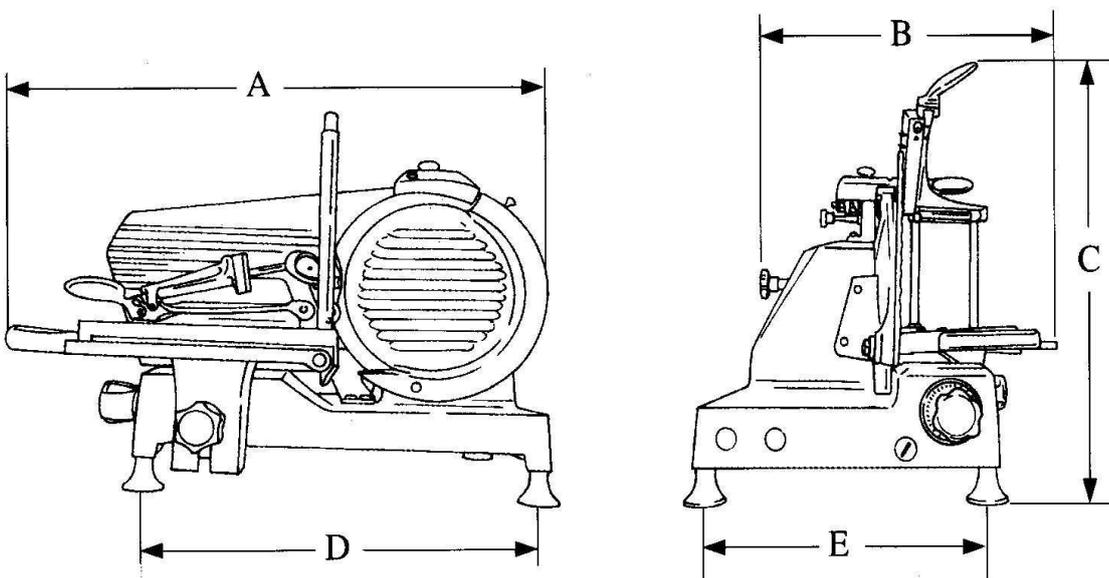
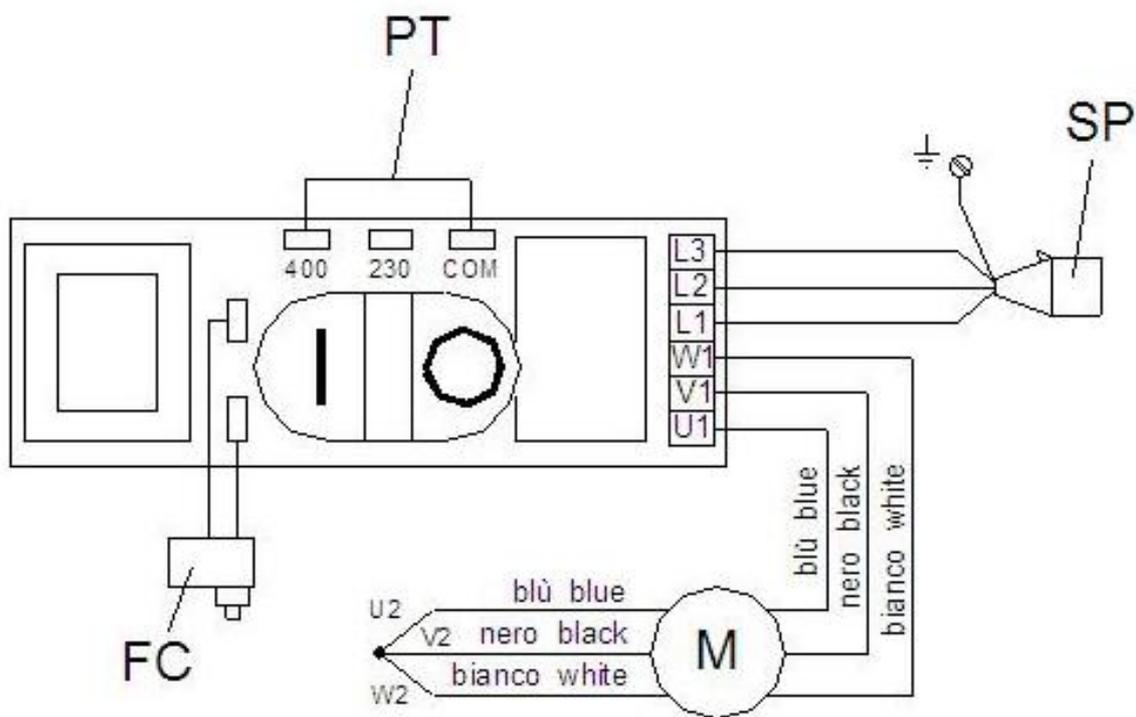

Figure 5 - Dimensional drawings of vertical slicer with twin support arm
Figure 11 - 400 V three phase wiring diagram with 5P plug
At this point, ensure that the earthing system is in perfect working order. Also check that the type of current indicated on the identification plate (Fig. 5) is consistent with the voltage (V) and frequency (Hz) of the power line.
Connect the slicing machine to the 400 Volt 50 Hz three phase mains using a CEI plug (red), interposing a 10A, $I_{\Delta n} = 0.03 \text{ A}$ RCD/circuit breaker. At this point, ensure that the earthing system is in perfect working order. Also check that the type of current indicated on the identification plate (Fig. 5) is consistent with the voltage (V) and frequency (Hz) of the power line. Before connecting the machine permanently to the three phase supply line, check the direction of rotation of the blade by briefly pressing the start button (ON) (Fig 11) then pressing the stop button (OFF) immediately afterwards.
1. press the start button (ON) and the stop button (OFF) (Fig. 11);